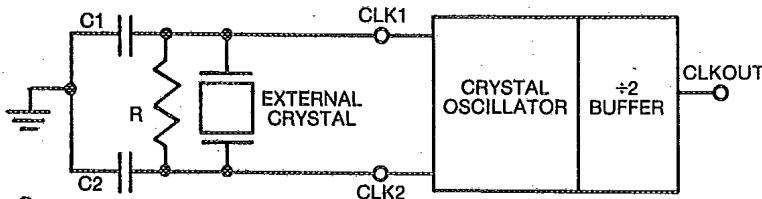

Figure 6 Internal-crystal-oscillator/external-crystal circuit diagram.
Figure 6 shows a Pierce IC oscillator with a ± 2 buffered output. Recommended feedback resistor (R) is $5k\Omega$ to $10k\Omega$ for crystal frequencies of 1 MHz to 40 MHz respectively. Capacitors C1 and C2 are 15 pF or may vary depending on type and make of the crystal. Increasing the value of C2 can adjust the duty cycle (ideally 50/50); however, too much capacitance will cause startup problems.